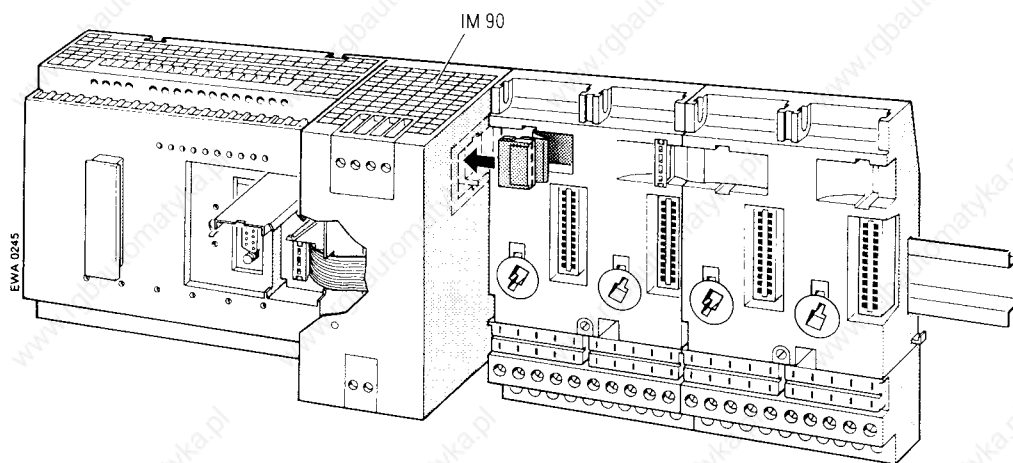

**Figure 3-6. Connecting the IM 90 to the S5-90U and the Bus Unit**
- ▶ Plug the connector into the receptacle on the right side of the PLC or into the receptacle of the adjacent bus unit on the left side (see Figure 3-6).
- ▶ Connect the plug to the S5-90U's plug connector (see Figure 3-6).
- ▶ Connect the plug to the plug connector on the right side of the IM 90 (see Figure 3-6).